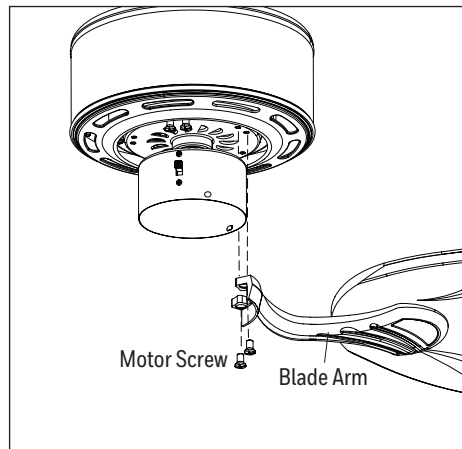

Figure 5.5
- Install the blade arm to the underside of the motor assembly using the ten previously removed motor screws (Figure 5.5). **To INSTALL THE FAN WITHOUT THE LIGHT KIT**, skip to page 8.